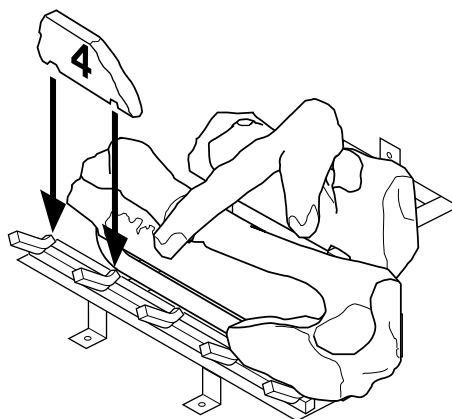

Figure 43 - Installing Log No. 4
4. Place log #4 (small log) onto the front left part of the grate making sure the notches fits over the prong of the grate. See Figure 43.